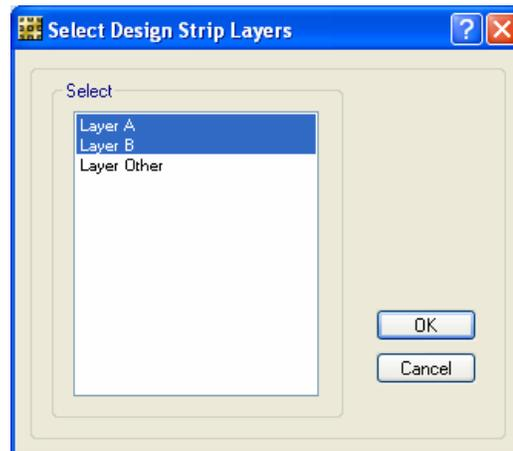

Figure 78 Select Design Strip Layers form
- K. Click the **Select menu > Select > Properties > Design Strip Layers** command to display the Select Design Strip Layers form shown in Figure 78.